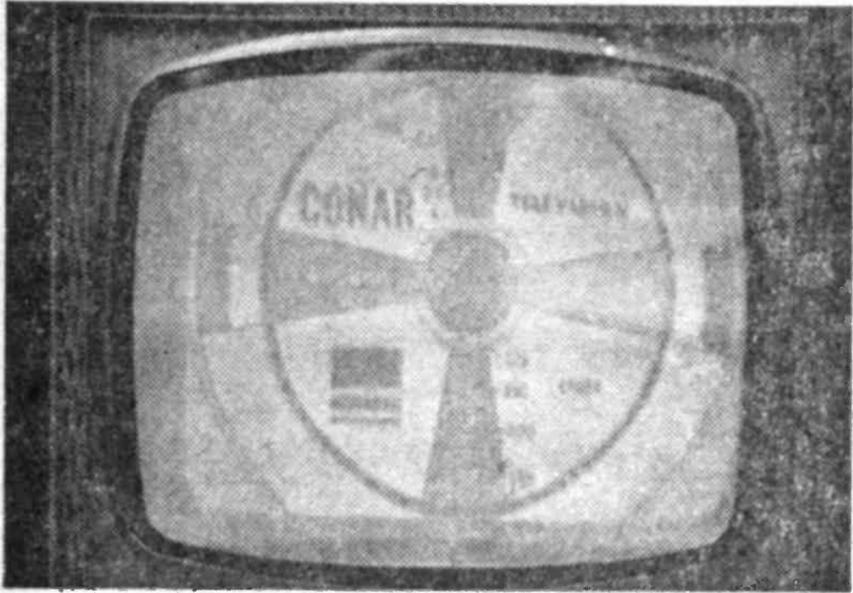

Fig. 12. Sets with sync stability control will require adjustment of this control when the condition in the photo is observed.
**Sync Stability Control.** Fig. 12 shows the effect on the picture of improper adjustment of the sync stability control. Note the bending of the image in the top of the pattern. This control adjusts a noise rejection circuit so that noise in the picture signal will not upset the sync. To properly adjust the sync stability control, observe the picture on the strongest local station with the AGC control properly set, and rotate the sync stability control counterclockwise until the picture bends at the top. Then back off the adjustment until the bending stops.